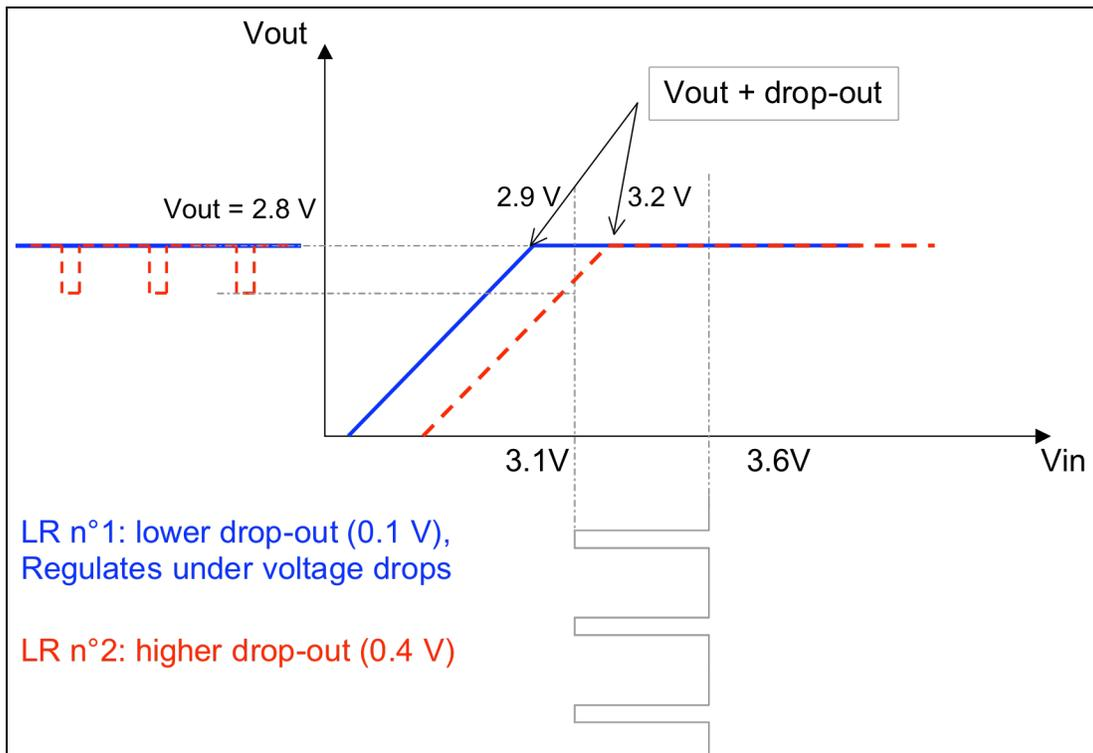

Figure 2 Relationship between dropout and effective noise rejection of a linear regulator
Let us consider a case depicted in Figure 2 where the LR is making the interface between a Lithium-Ion battery delivering 3.6 V and an analog block requiring a regulated 2.8 V supply. The figure shows how a 500 mV transient on the battery voltage is transferred to the LDO output depending on the effective drop-out of the linear regulator.
In Figure 2, the LR n°1 (in blue plain line) has a drop-out of less than 100 mV and therefore keeps on regulating, while the n°2 (in red dotted line) cannot stand such voltage drop as it requires a minimum of 400 mV of difference (drop-out) between the input and the output voltage.
0.4 = 3.4 V (case of regulator n°2 on Figure 2) and it will then demonstrate a PSRR of 0 dB in this case!
See the case on Figure 2, where the residual TDMA noise present at the regulator n°2 output with several hundreds of mV and cannot be predicted using the PSRR figure!